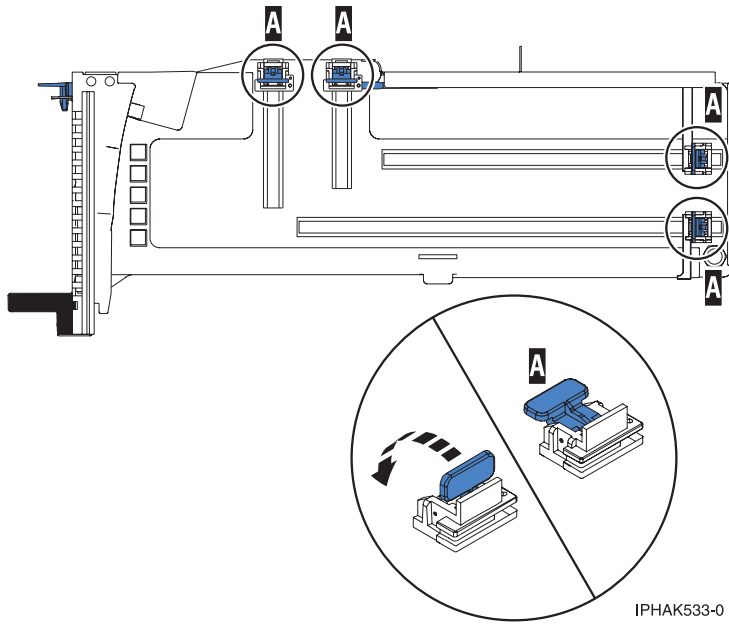

Figure 29. Adapter retainers
- b. Ensure that all of the adapter retainers (A) have been pushed out to the edges of the cassette to allow the placement of the adapter. See Figure 29 on page 39.